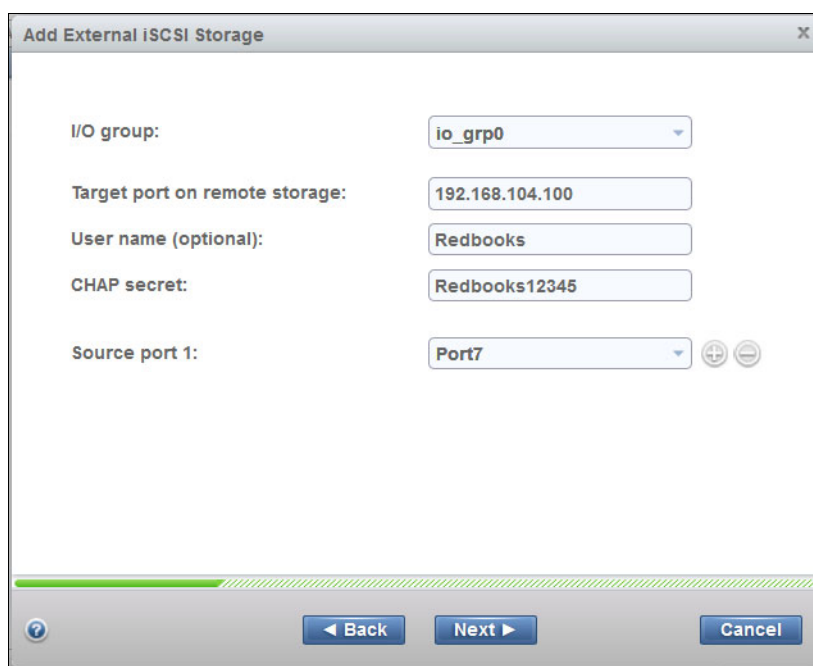

Figure 14-27 Completed form for Dell Equallogic PS Series connection wizard
5. Select the required I/O group from the drop-down menu options and provide the target IP address. Optionally, you can also specify a user name and CHAP secret. Specify the source ports from the drop-down list and click **Next**. Figure 14-27 provides an example of a completed form with all of the mentioned details.